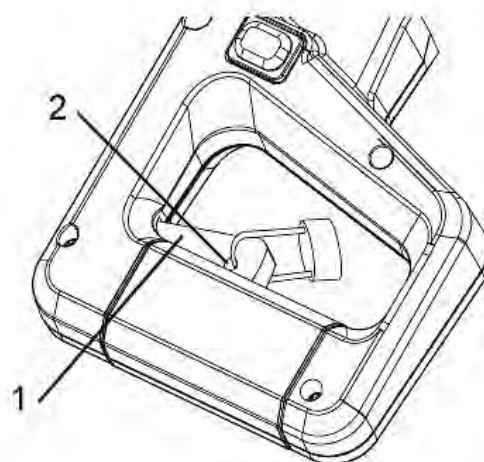

Fig. 34: ON/OFF switch
8.5 Switching on the saw (Fig. 34)